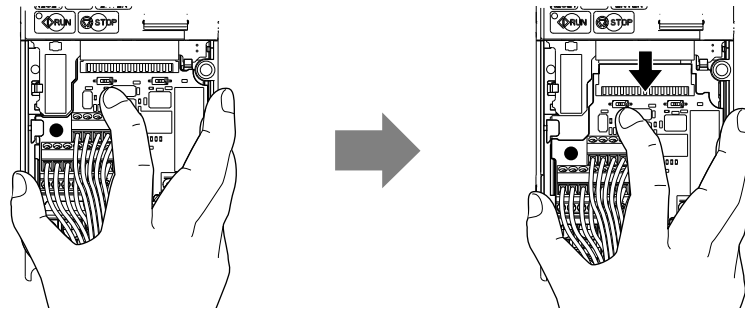

Figure 7.17 Remove the Terminal Board
4. While holding down the locking pin from step 3, slide the removable terminal block in the direction of the arrows in Figure 7.17.